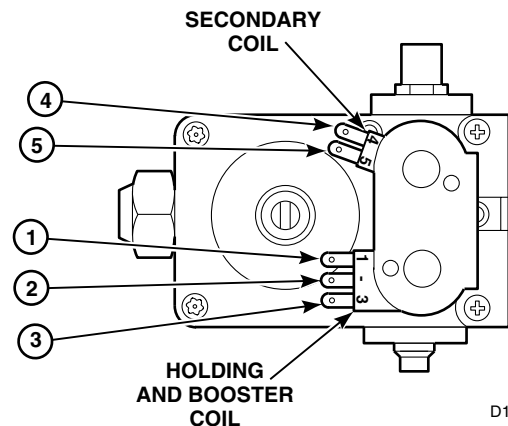

Figure 16
- a. Holding Coil (Refer to *Figure 16*) – Terminals 1 and 2 - Meter should read 1365 ± 25 Ohms.
- b. Booster Coil (Refer to *Figure 16*) – Terminals 1 and 3 - Meter should read 560 ± 25 Ohms.
- c. Secondary Coil (Refer to *Figure 16*) – Terminals 4 and 5 - Meter should read 1220 ± 50 Ohms.